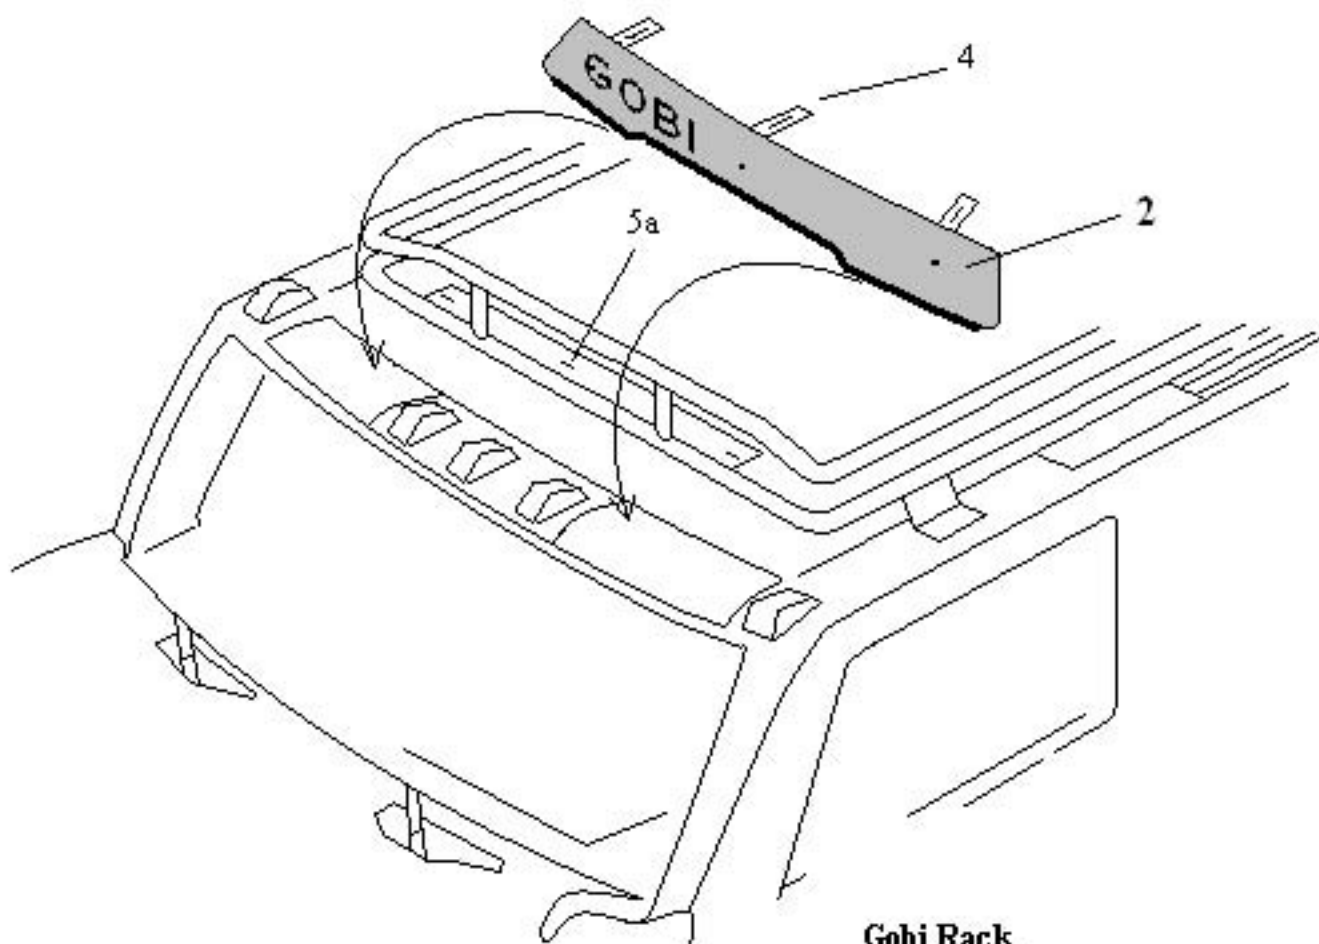
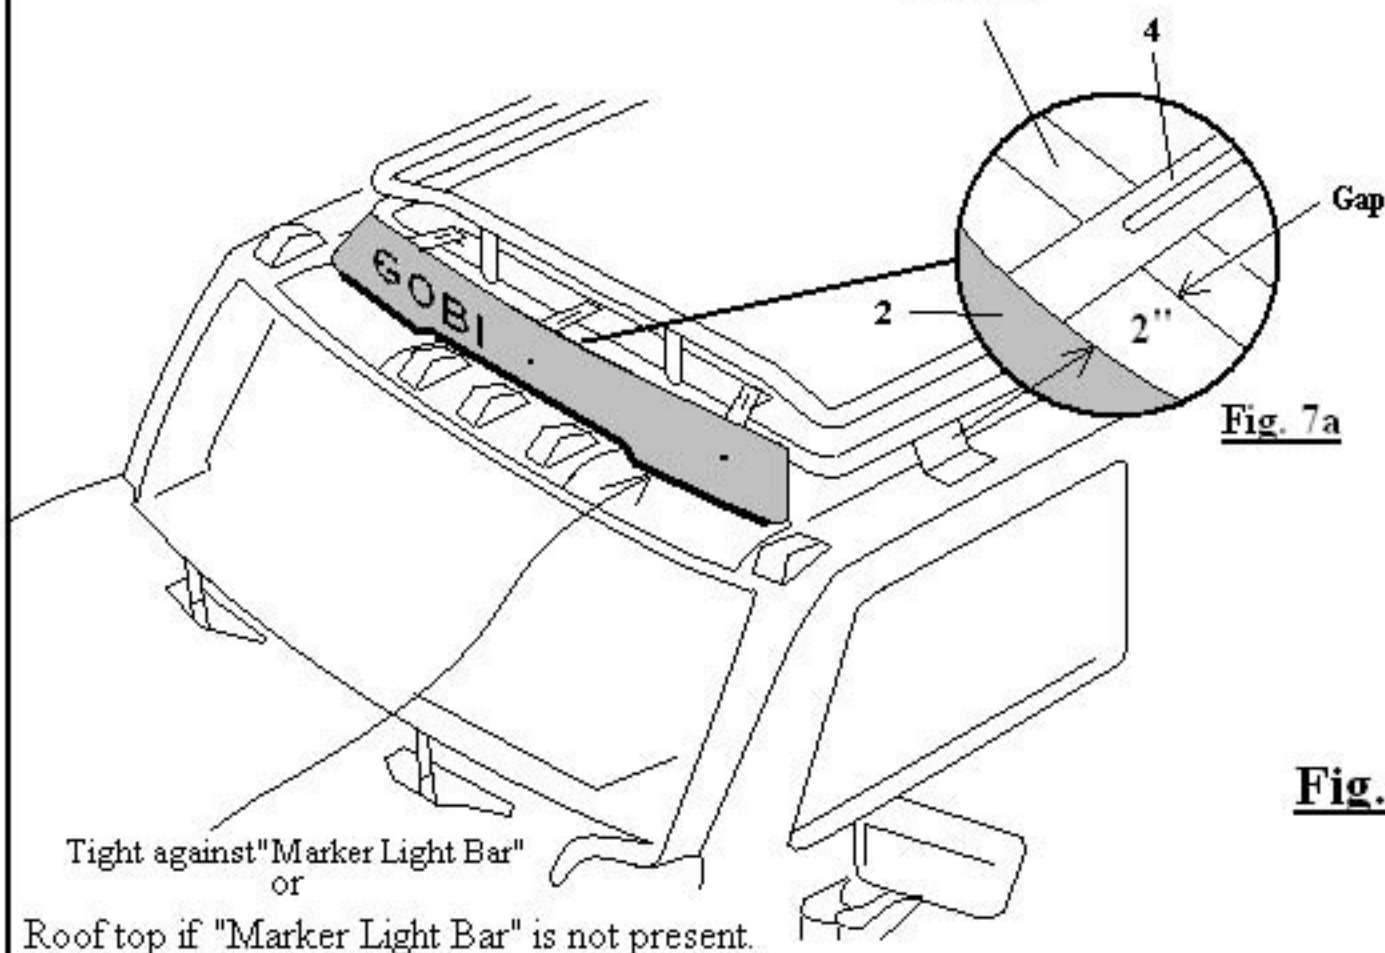

Fig. 6
Fig. 7
- 6- Refer to page 3, farring installation is determined by the vehicle roof trim. The C-1 farring shown on page 3 is designed to fit a roof line with No exterior front Marker lights. The C-2 farring also shown on page 3 is designed for a roof line with a "Marker Light Bar" trim. Referring to page 6 Fig. 6 position the farring so that the center farring bracket #4 is on the center of the light bar farring slot #5a. If you are attaching a C-2 farring make sure that the farring is positioned behind the Marker lights as shown in Fig. 7 page 6. Remove the screws, nuts, lock washers and black plastic washers from bag #2 included in your hardware kit then begin by attaching the center farring bracket #4 to the light bar center slot #5a Fig. 6 leave approximately a 1" to 2" gap between the farring and the roof rack tubing as shown in Fig. 7 a page 6. Once the center is attached snug down only to prevent slippage at this time. Pull the outsides of the farring close to the roof rack causing a bow to form in the farring then place the screws and nuts in place and tighten down. Apply the same procedure to the opposite side. Make certain that the farring rubber strip is in full contact with either the roof top or "Marker Light Bar" if present throughout the farring length then tighten completely. Installation is now complete.